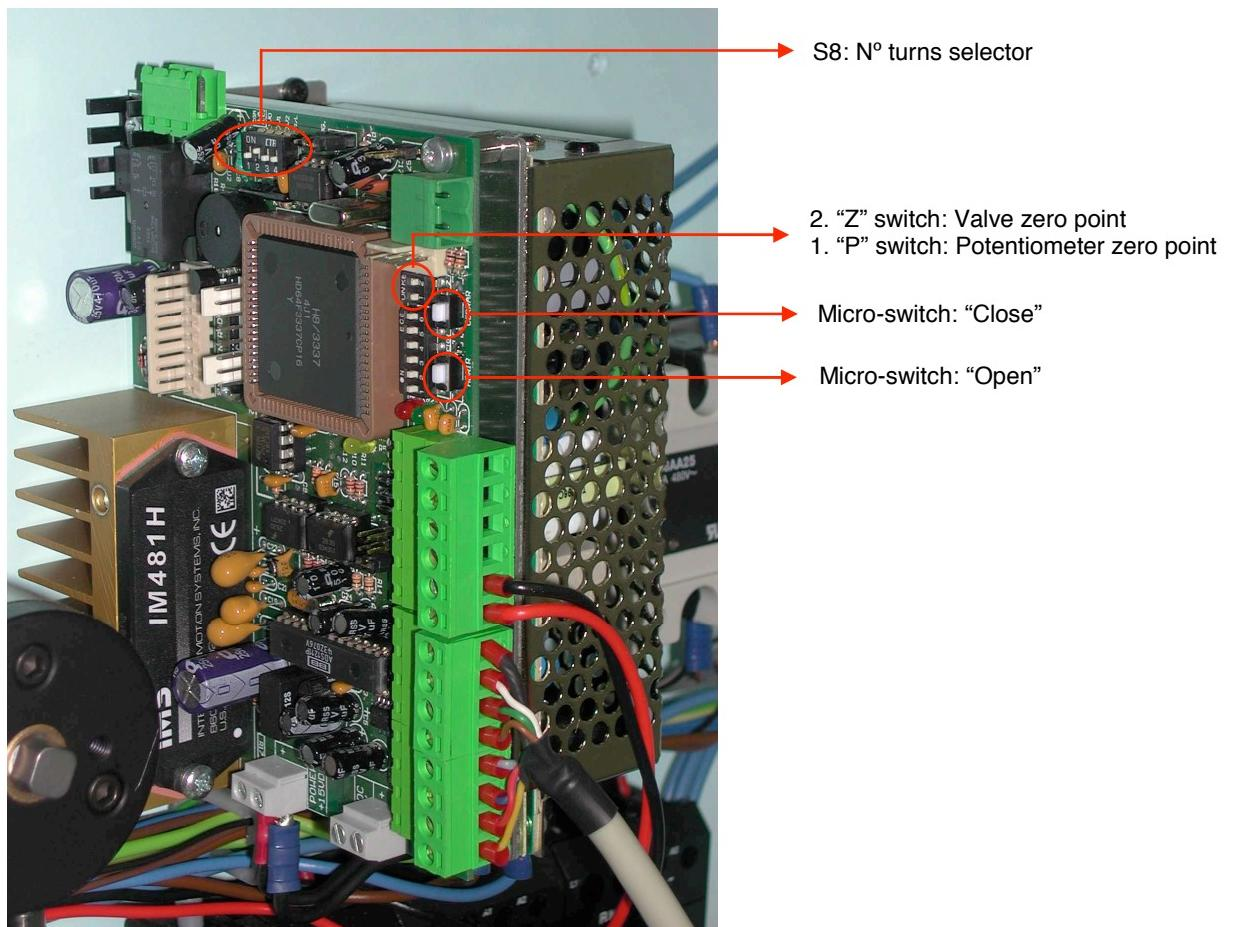

Figure 4-24
To adjust the valve's zero-setting, set switch "Z" on the dip-switch to "On". (S1: zero, see Figure 4-24). The motor is now free for manual positioning (by means of the corresponding TOHO controller in manual mode, acting on the % of control output) or by pressing the microswitches "Open" or "Close" the valve's new zero-setting (point at which the system's gas outlet ceases to bubble). If the buttons "Open" or "Close" are pressed, the motor moves the shaft in 5° jumps. Once this has been performed, return the "Z" switch to the "Off" position. The new zero-setting will be saved on memory.
- Localize the dip-switch S8 of the driver (see Figure 4-24)
- Check that the switch 4 on dip-switch S8 is on the “Off” position (see Figure 4-24)